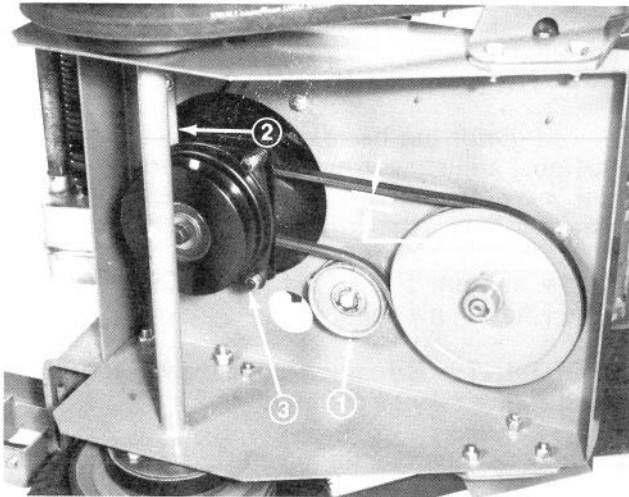

Figure 23
1. Loosen capscrew and flange nut securing idler pulley to frame (Fig. 23). Slide pulley outward relieving belt tension.
2. Remove left front engine mounting bolt securing clutch retainer to frame (Fig. 23). Unhook retainer from clutch and remove retainer.
3. Disconnect in-line wire connector and remove belt from drive pulley and clutch (Fig. 23).
6. Position and secure idler pulley to frame so belt deflection is no more than  $11/16$ " when 5-1/2 lb of force is applied to midspan of long leg of belt (Fig. 23).
1. To adjust clutch, tighten or loosen locknuts on flange studs (Fig. 23).